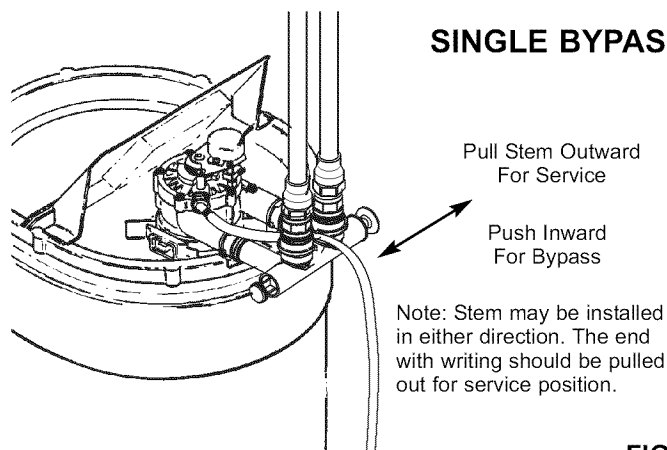

FIG. 18
2. Look at the pictures in Fig. 18 and 19 to determine your kind of bypass valve(s). Place bypass valve(s) in "bypass" position. On a single valve, slide the stem inward to bypass. On a three (3) valve system, close the inlet and outlet valves and open the bypass valve.